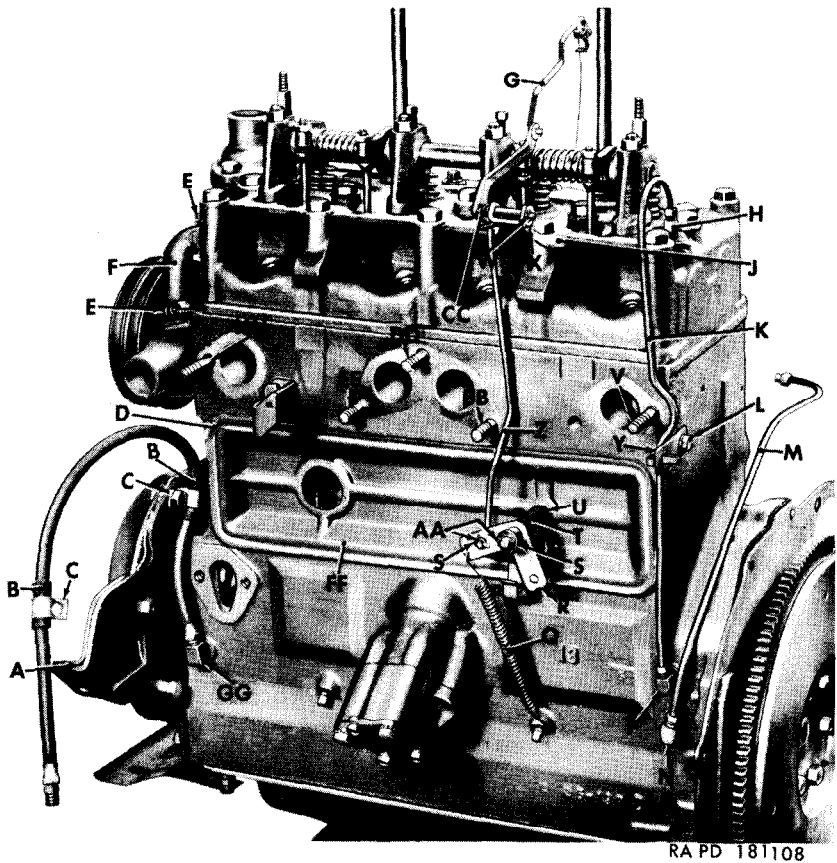

Figure 97. Left side view of engine partially assembled.
115. Install Oil Lines and Water Pump Bypass Tube (fig. 97)
c. Install the 90° elbow (N) in the cylinder block and connect the sending unit oil line (M) to the elbow.
d. Install the 90° elbow (GG) in the cylinder block and connect the non-swiveled end of the oil filter inlet flexible line (A) to the elbow. Install one of the $\frac{3}{16}$ -inch clips (C) on the flexible line and under the head of the timing gear cover bolt as shown in figure 97 and the second clip (C) under the head of the water pump upper attaching cap screw.
e. Install the water pump bypass tube (F) on the nipples installed in the cylinder head and the water pump, and secure in place with $1\frac{5}{16}$ -inch hose clamps (E).
(fig. 97)